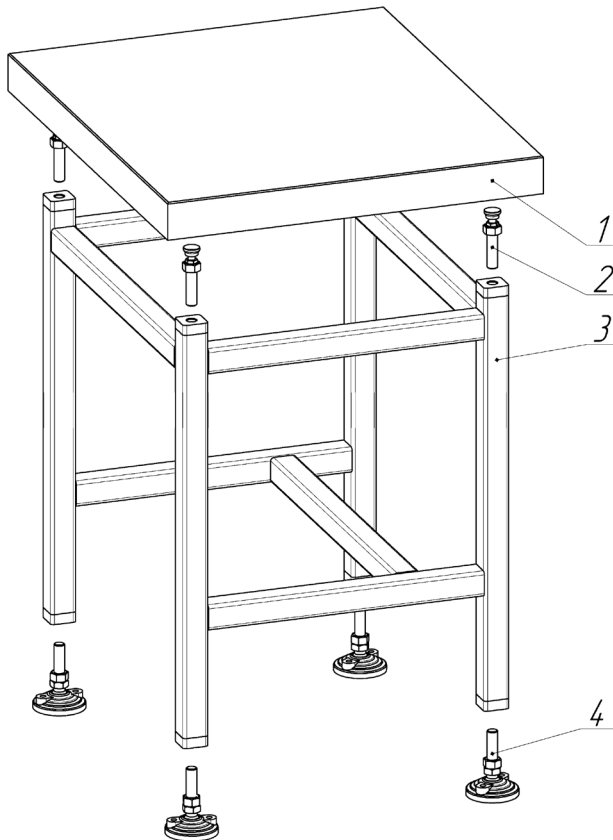
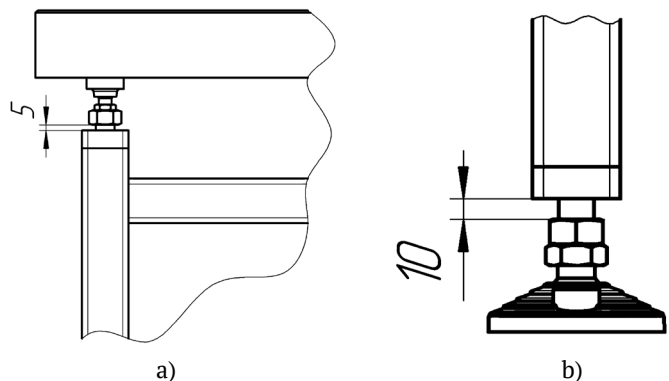

Figure 1 – assembling the table
Figure: 2 – distance from the lock nut to the end of the frame
5.3 Screw the lower supports together with locknuts – 4 (Fig. 1) into the table frame – 3 (Fig. 1) to such a distance that 10 mm remains between the nut and the end surface of the frame (Fig. 2, b). (This is to be done due to the fact that the adjustment range of the lower legs is 0 ... 20 mm, so the adjustment is to be made from the middle position.)
5.5 Screw the upper supports together with locknuts – 2 (Fig. 1) into the table frame – 3 (Fig. 1) to such a distance that 5 mm remains between the nut and the end surface of the frame (Fig. 2, a). (This is to be done due to the fact that the adjustment range of the upper supports is 0 ... 10 mm, so the adjustment is to be made from the middle position.)
5.7 Carefully, with the help of two or three people, pick up the granite slab – 1 (Fig. 1) and install it on the upper supports – 2 (Fig. 1), in accordance with the signs on the frame and on the slab itself.